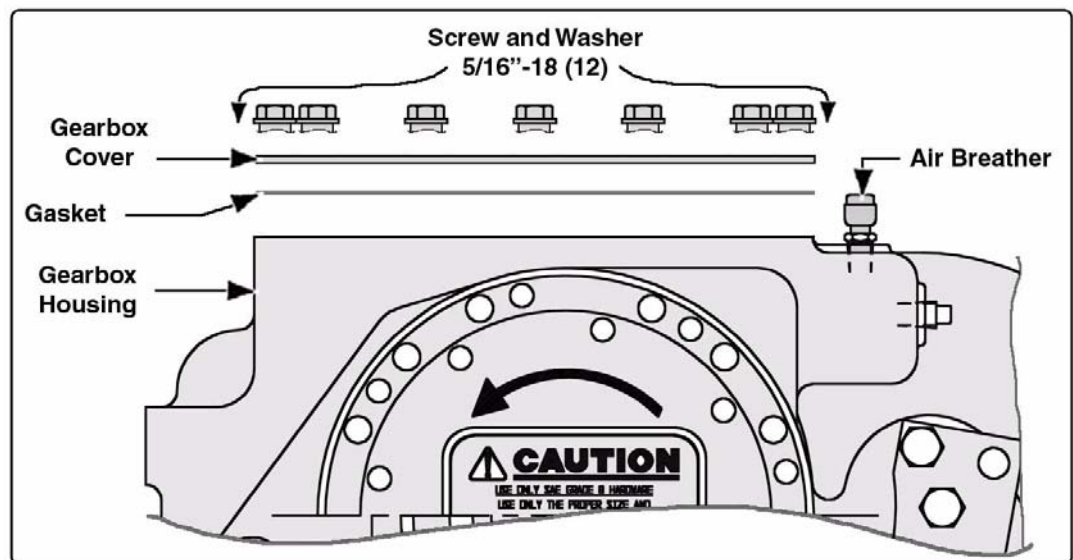

Figure 6c-3: Remove the Gearbox Cover
1. Remove the twelve (12) 5/16"-18 screws, washers and gasket. (See Figure 6c-3: "Remove the Gearbox Cover.")